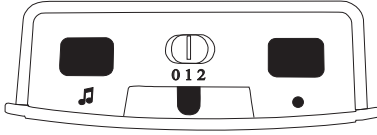

Figure 2: Receiver, upper side
Using the signal mode slide switch (in fig. 2 "0 1 2") you can select the signal mode. Kindly keep in mind that the symbols are always displayed with coloured light diodes.
- Keep the function button »••« (fig. 2) pressed for some time. The icons light up in sequence. Let go of the button as soon as you see the desired icon.